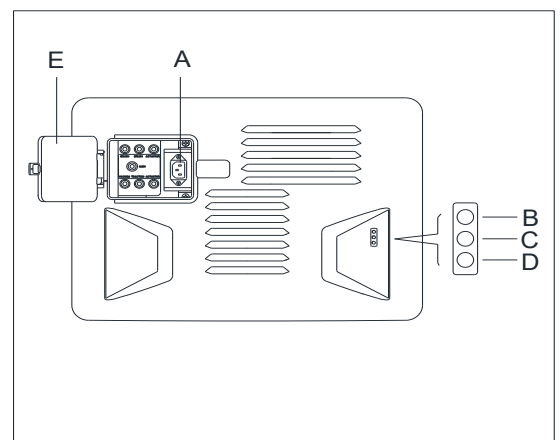

Figure 19
7. Open the protection cover (E, Figure19), connect the charger connector (A, Figure 19) to the main power supply, all machine functions are shut off. The red LED (D, Figure 19) turns on means the charging is ongoing.
8. The batteries are fully charged when the green LED (C) becomes on.
9. Disconnect battery charge cable from electric mains after charging is completed, and then store the battery charger cable (F, Figure19) in the storage box (G, Figure19).
For further information about on-board charger (A, Figure19), please refer to relevant manual from service center.